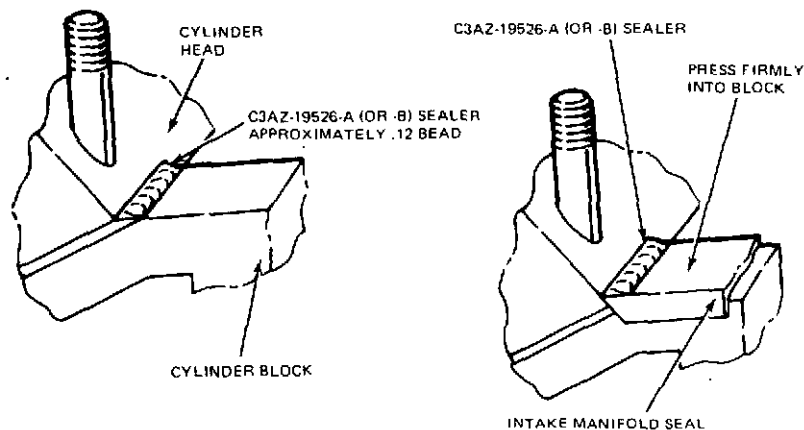

FIG. 38 Sealing Intake Manifold with RTV Sealer
3. Apply a 1/8 inch diameter bead of silicone rubber sealer (C3AZ-19562-A or B) in and along the joint, the full width of the cylinder block seal mounting surface (4 corners) as shown in Figure 38.
4. Install the cylinder head to manifold gaskets and the front and rear intake manifold to cylinder block seals. Apply a 1/16 inch bead of sealer at the outer end of each intake manifold seal for the full width of the seal (Figure 38).